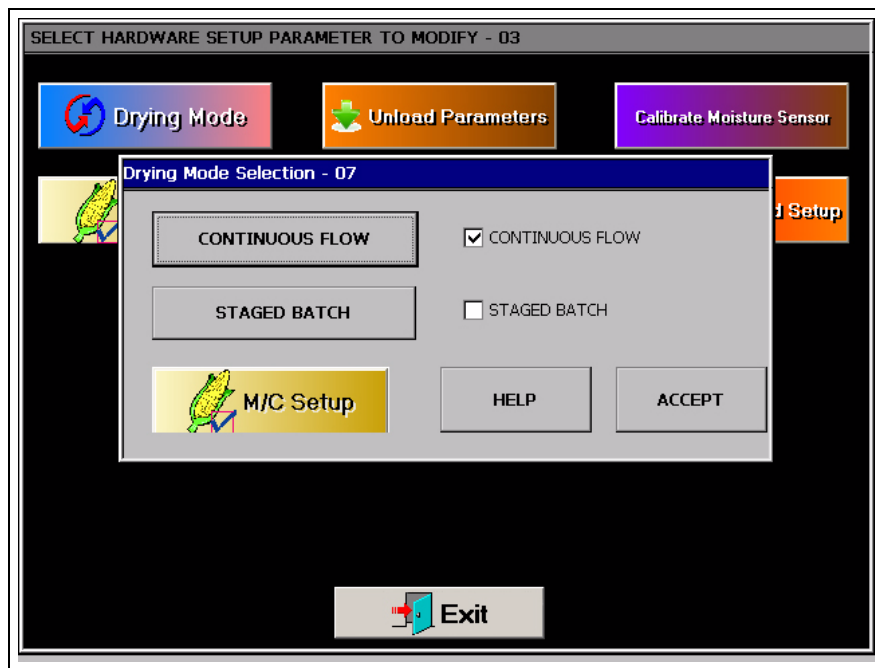

Figure 5G
1. **Drying Mode:** The  Drying Mode button will display the “Drying Mode Selection” window. Select continuous flow or staged batch. A check mark is displayed next to the currently selected drying mode. (See Figure 5G.)